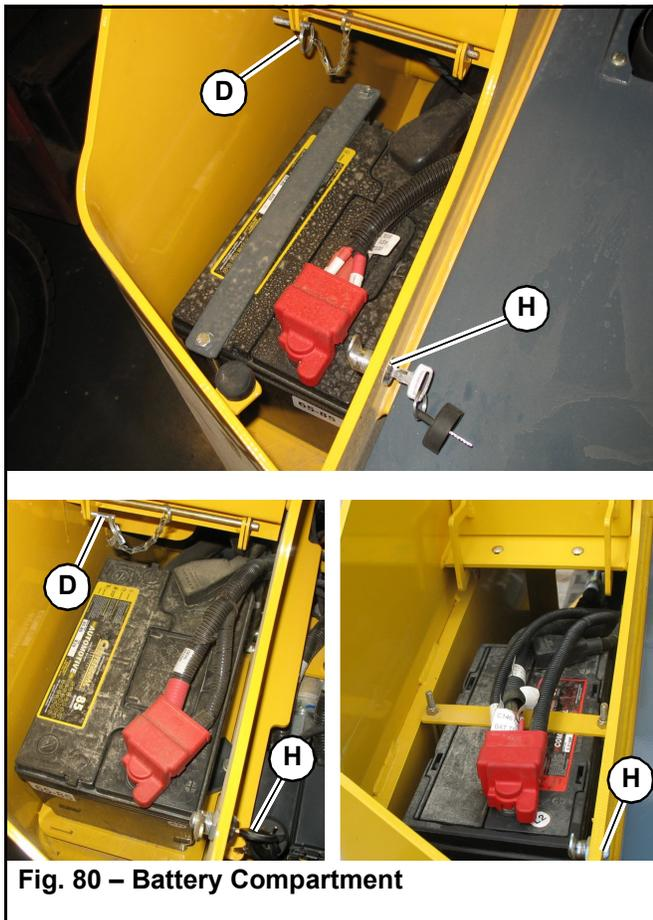

Fig. 80 – Battery Compartment
2. Using the accessory key (supplied with the ignition key), unlock (H, Fig. 80) and open the battery compartment located at the rear left corner of the machine. Open the battery compartment cover and lock the cover open using pin (D).